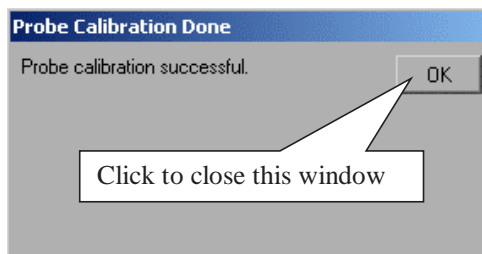

Figure 298 Calibration Window.
- 10 Referring to Figure 298 below, perform the following steps: